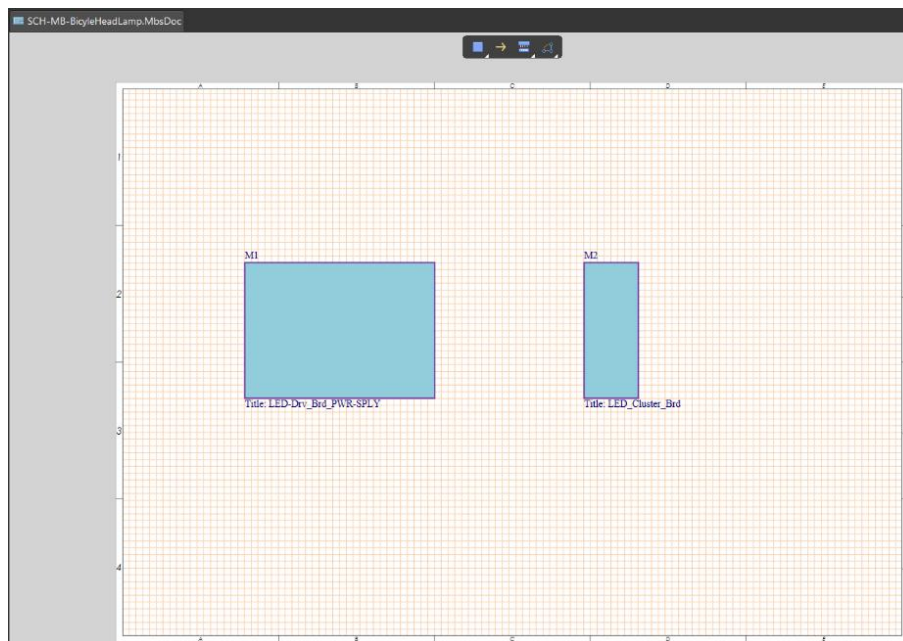

Figure 9. Configured Modules on MB Schematic
25. Your configured modules on the MB Schematic should look like Figure 9.